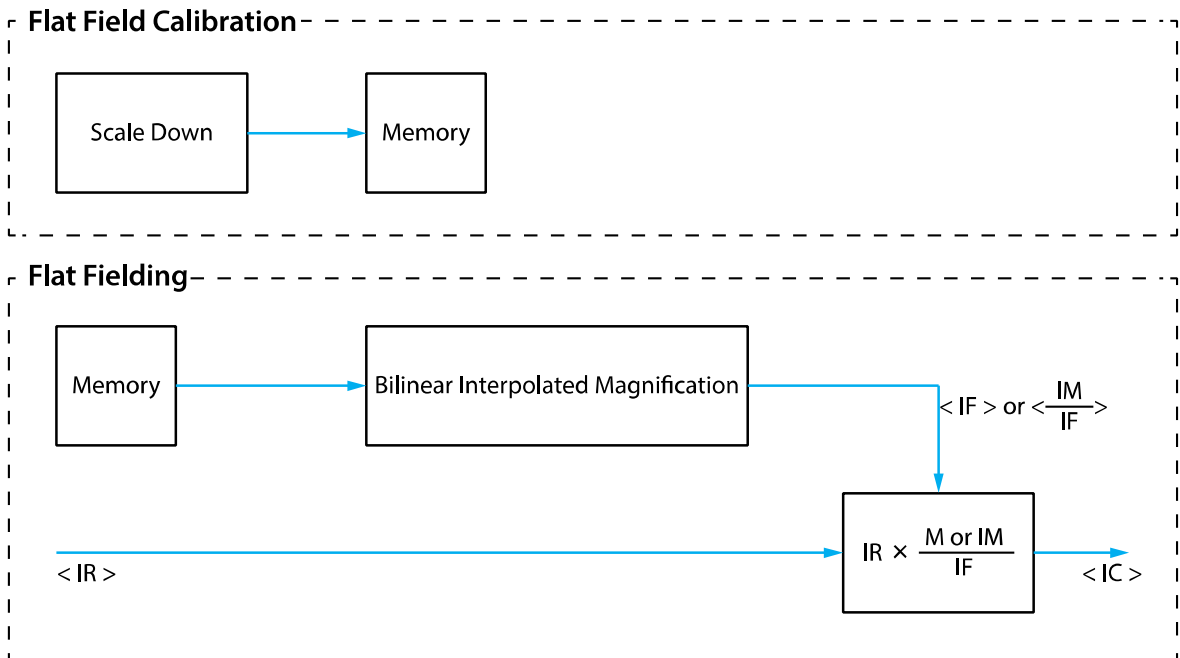

Figure 9-9 Generation and Application of Flat Field Data
3. Execute the **Flat Field Data Save** parameter to save the generated Flat Field data into the non-volatile memory. When the scaled down Flat Field data are used for correction, they are expanded and applied with a Bilinear Interpolation as shown in the **Figure 9-9**.